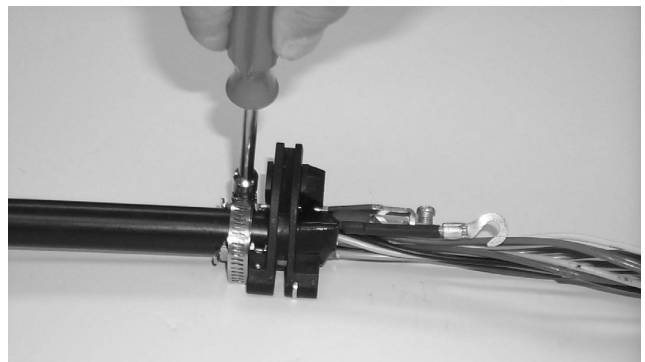

Figure 3
5. Slide the larger slotted cable attachment part into the smaller cable attachment part. With the supplied 1/4" nut driver, tighten the hose clamp around the sheath retention clips to grip the cable sheath, such that the retention teeth fully seat into the cable assembly. (Figure 3) Do not tighten the clamp to the point that it deforms.